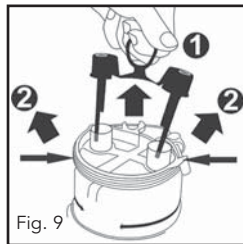
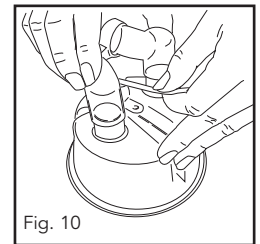
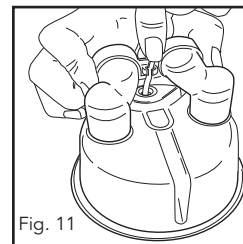

Fig. 9
Fig. 10
Fig. 11
6. Remove the blue port caps from the chamber by pulling the tear tab upwards, then remove the circular bracket holding the water supply tube (Fig. 9). Fit the supplied adapter over the two vertical ports on the chamber and push on fully then clip the water supply tube into position (Fig. 10 and Fig. 11). Follow Step 5 above to fit the water chamber.